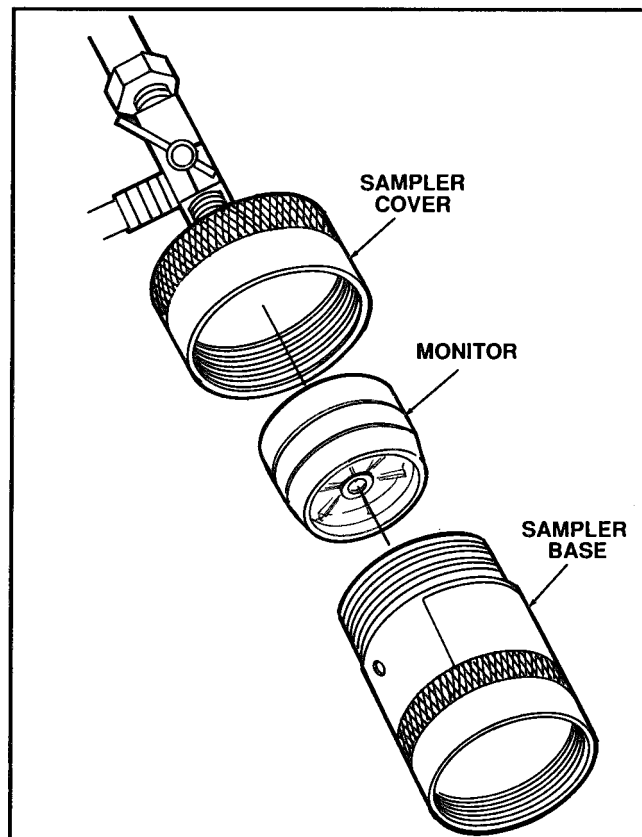

Figure 2.4 Inserting the Monitor into Sampler Base
- b. Unscrew the sampler cover from the sampler base and insert the monitor spoke-side down into the base (Figure 2.4).